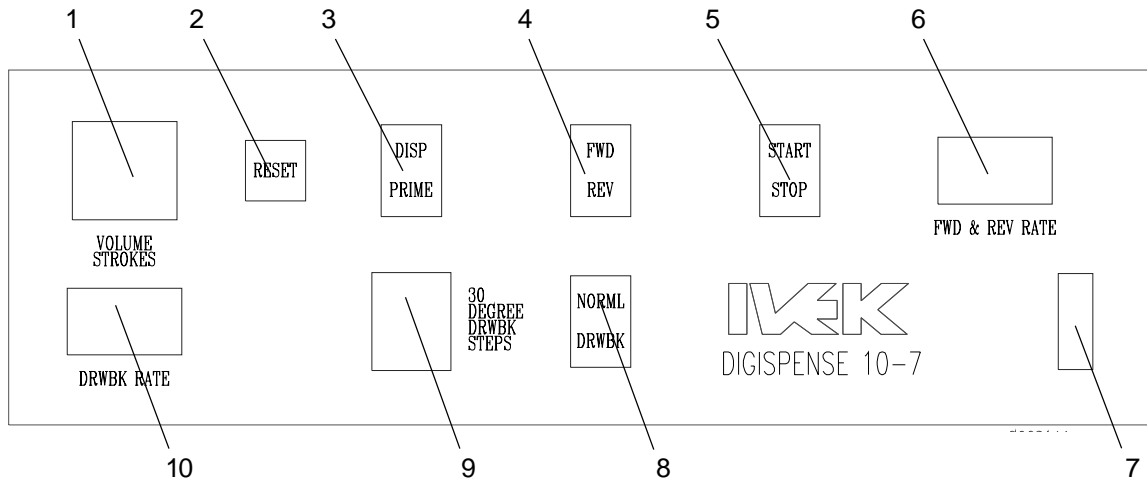

Figure 3.1 Digispense 10-7 Controller Module Front Panel
3.1.1 Front Panel Controls & Indicators (Figure 3.1)
3.1.1.1 VOLUME STROKES Pushwheel (Figure 3.1 Item 1)
3.1.1.2 RESET Switch (Figure 3.1 Item 2)
3.1.1.3 DISP/PRIME Switch (Figure 3.1 Item 3)
3.1.1.4 FWD/REV Switch (Figure 3.1 Item 4)
3.1.1.5 START/STOP Switch (Figure 3.1 Item 5)
3.1.1.6 FWD & REV RATE Pushwheel (Figure 3.1 Item 6)
3.1.1.7 1/0 Switch (Figure 3.1 Item 7)
3.1.1.8 NORML/DRWBK Switch (Figure 3.1 Item 8)
3.1.1.9 30 DEGREE DRWBK STEPS Pushwheel (Figure 3.1 Item 9)
3.1.1.10 30 DEGREE DRWBK RATE Pushwheel (Figure 3.1 Item 10)